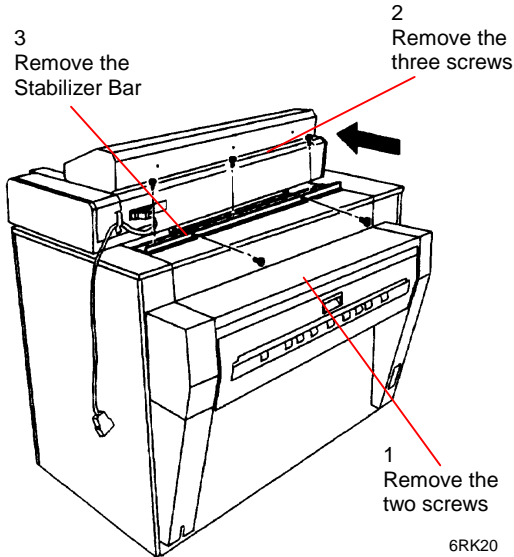

Figure 1. Removing the Stabilizer Bar
2. (Figure 1): Remove the Stabilizer Bar.